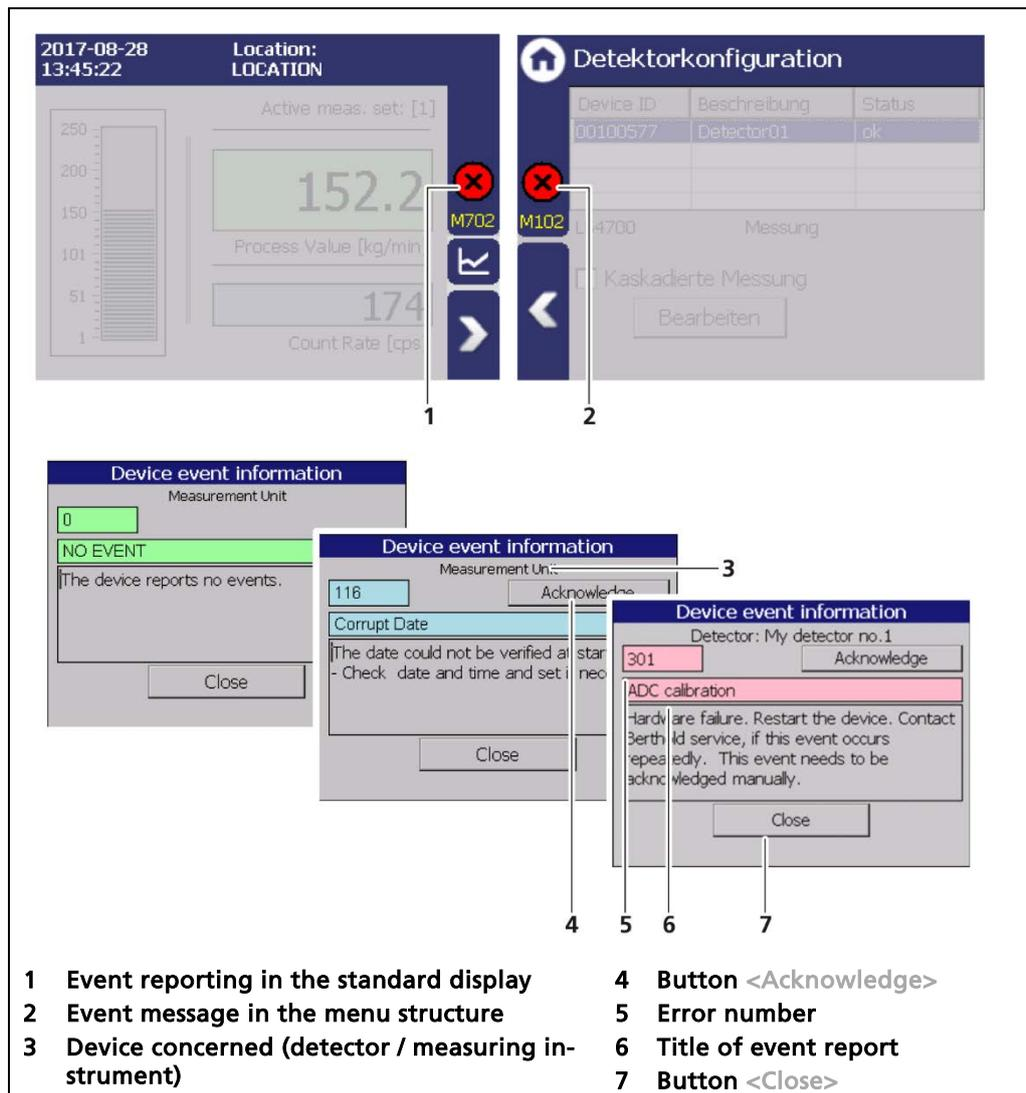

Fig. 30 Event report
1. Click on the icon (Fig. 30, item 1, item 2) to display detailed information about the event.